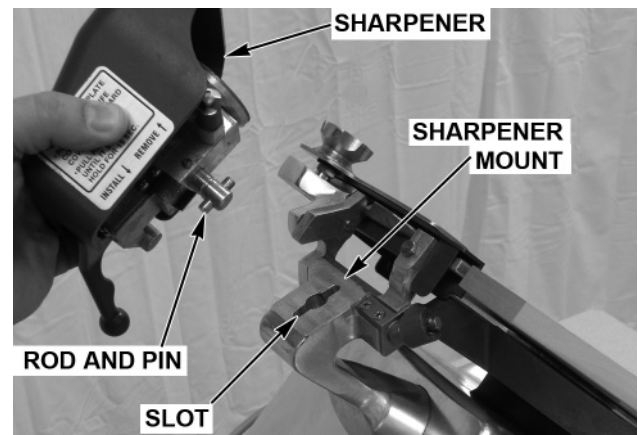

Fig. 26
- Install the Sharpener by lowering it back onto the Sharpener Mount so the Rod and Pin on the bottom of the Sharpener fit the Slot in the Sharpener Mount (Fig. 26).